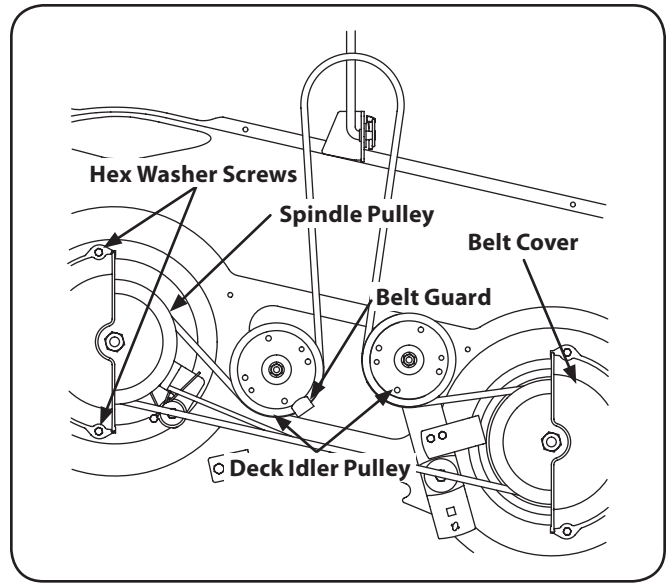

Figure 7-8
2. Remove the belt covers by removing the hex washer screws that fasten them to the deck. See Figure 7-8.
4. Carefully remove the deck belt from around the two spindle pulleys and the two deck idler pulleys. See Figure 7-8.
3. Loosen, but do not remove the belt guard on the pulley located near the back of the deck. See Figure 7-8.